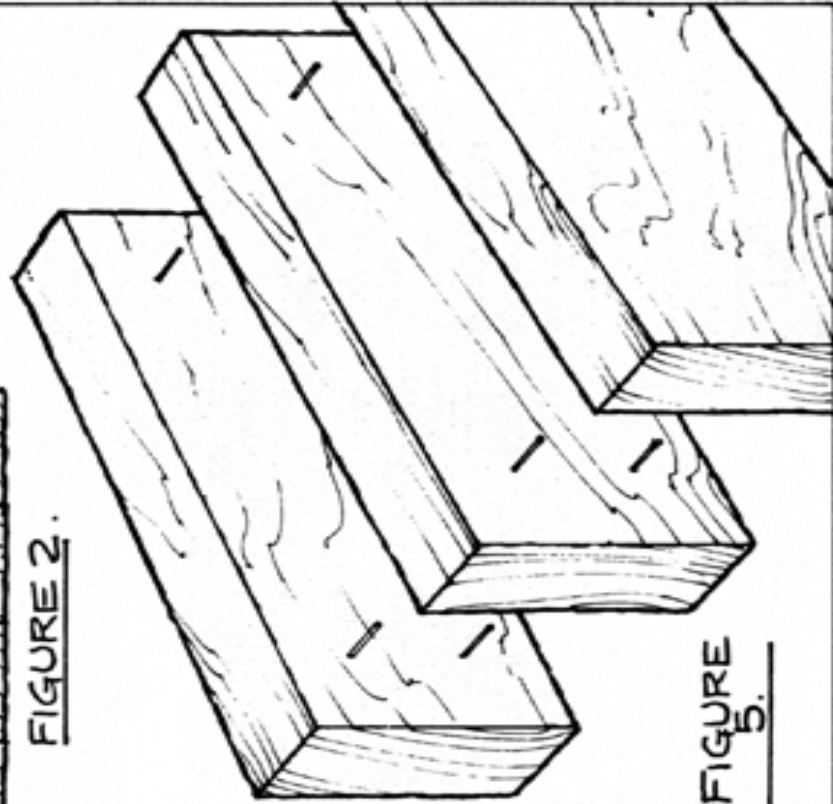

FIGURE 5.
7. Insert small nails into each alternating surface as shown in **Figure 5**, then cut the heads off leaving 1/8" above the surface. This will simplify clamping.
13. Cut to length and width all the remaining component pieces, parts B through I. **NOTE: It will probably be necessary to glue up several boards to achieve a sufficient width for the center shelf (E).**
15. Form each box is formed by rabbeting the two sides (C) to accept the ends (B).
16. Notch the apron sides as shown to accept the stretchers (G).